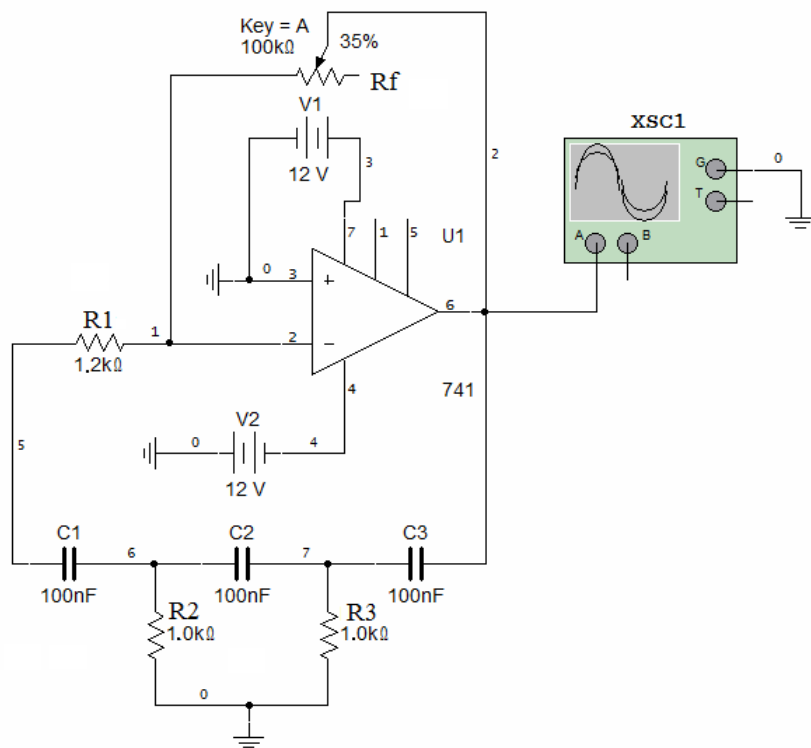

Fig. 4. Basic circuit of RC phase shift oscillator
The three RC stages are cascaded together to get the required slope for a stable oscillation frequency. The feedback loop phase shift is -180° when the phase shift of each stage is -60° . This occurs when $\omega = 2\pi f = 1.732/RC$ as ($\tan 60^\circ = 1.732$). Then to achieve the required phase shift in an RC oscillator circuit is to use multiple RC phase-shifting networks such as the circuit in Fig. 4.
- Connect the **+12V** terminal of the Power Supply to the pin 7 of your circuit as shown in Fig. 4. Connect the **-12V** terminal of the Power Supply to the pin 4 of your circuit as shown in Fig. 4. Connect the **COM** terminal of the Power Supply to the ground of your circuit as shown in Fig. 4.
1. Build the circuit of Fig. 4 using an 8-pin uA741 (УД708) op-amp with $R_f = 100 \text{ k}\Omega$ (potentiometer), $R_1 = 1.2 \text{ k}\Omega$, $R_2 = R_3 = 1 \text{ k}\Omega$, and $C_1 = C_2 = 100 \text{ nF}$.